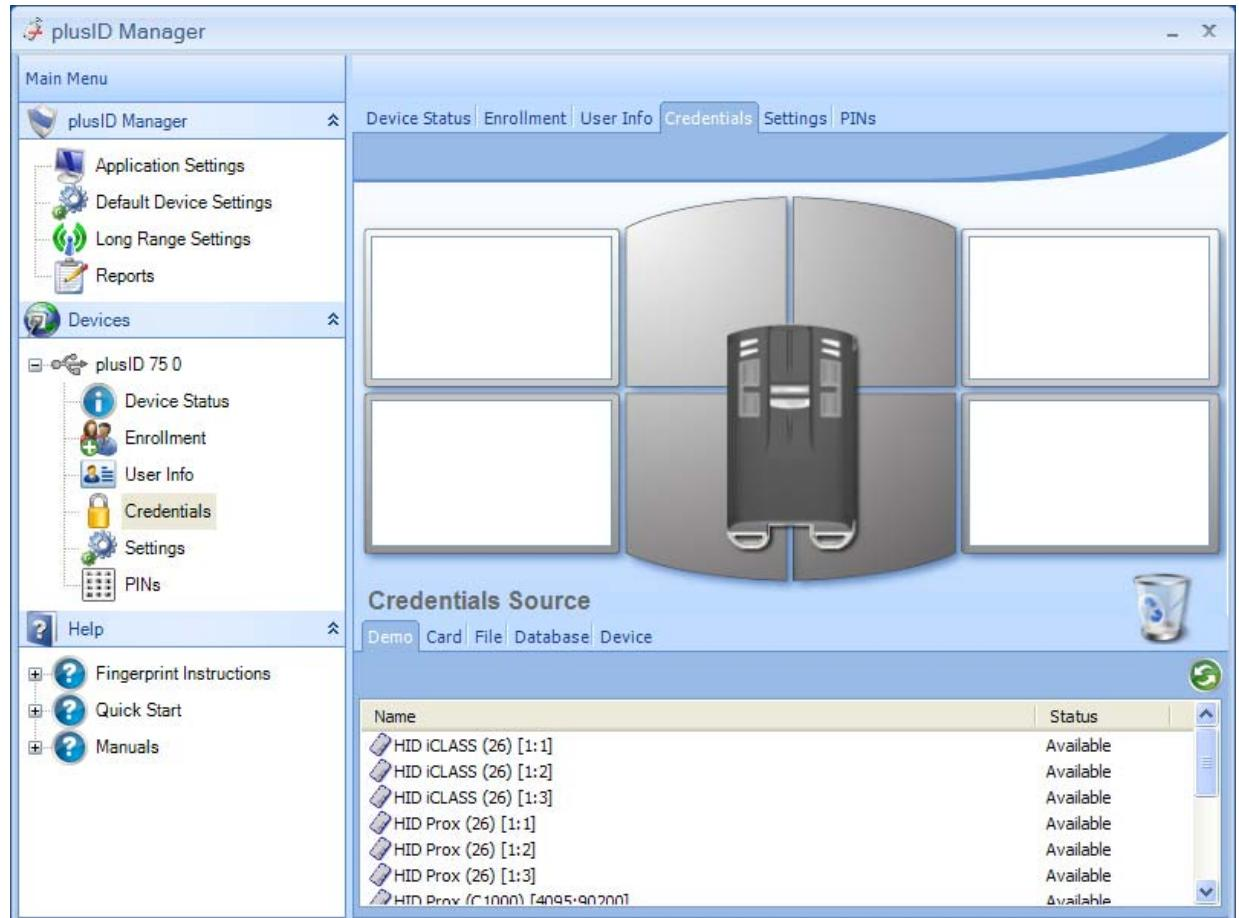

Figure 8
The “Credentials” option from the main menu tree (Figure 8) is used for loading physical access credentials onto plusID devices so that the device can be used for facility and door access. Different credentials can be assigned to each of the four function buttons on the front of the plusID device, enabling a single device to be used to access multiple doors, buildings and/or vehicle gates.
Loading (assigning) credentials is as simple as “dragging” a credential from the list at the bottom of the Credentials Screen (Figure 8) and “dropping” it into one of the four white squares at the top of the Credentials Screen that correspond to each of the four function buttons on the front of a plusID device.
5. Select "Credentials" from the menu tree. The Credential Management screen is displayed (Figure 8)
When credential generation is complete the card format will be shown in the selected location (Figure 8). Different card formats can be loaded for each of the device’s four buttons for access to multiple doors and facilities. For user convenience, the same card format can be loaded onto multiple buttons. See Section a. above for acceptable credential pairings.